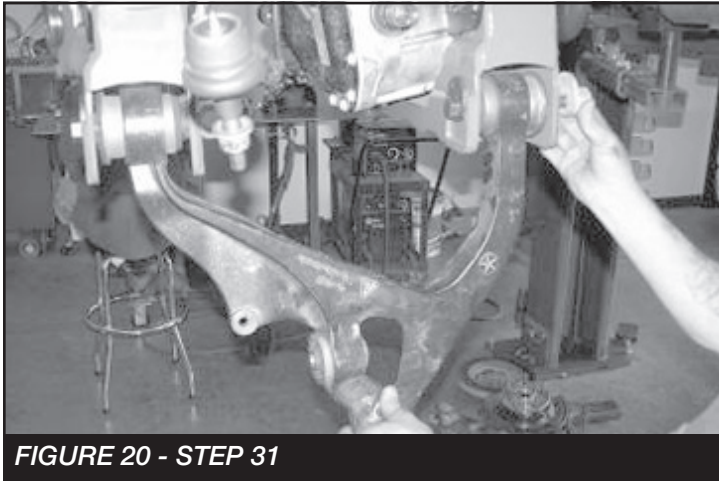

FIGURE 20 - STEP 31
30. DIESEL MODELS ONLY: Once the differential is in and torqued, proceed with re-installing the steering rack. Use steps 17,18 in reverse order. Torque the steering shaft bolt to 36 ft-lbs. and the (2) crossmember bolts to 235 ft-lbs.
31. Working from the driver side of the truck, install the factory lower control arm to the Fabtech crossmembers using the original alignment cam bolts. Leave loose at this time. **SEE FIGURE 20**